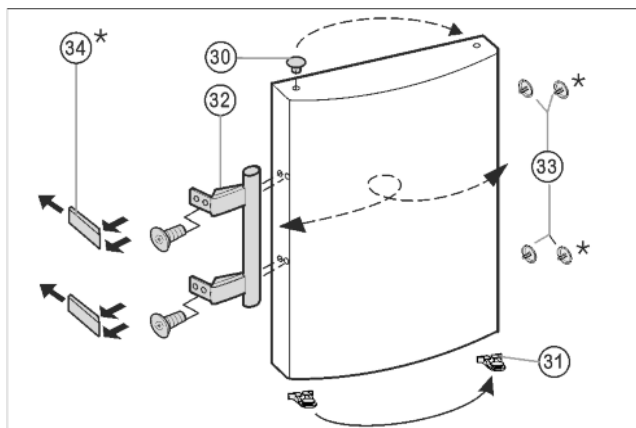

Fig. 8
- ▶ Lift the stopper Fig. 8 (30) out of the door bearing bush and transfer it.
- ▶ Detach door handle Fig. 8 (32), stopper Fig. 8 (33) and pressure plates Fig. 8 (34) and transfer to the opposite side.